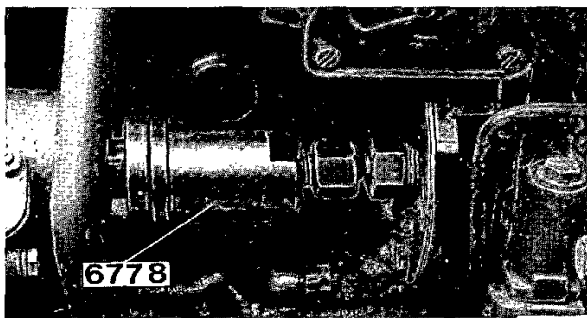

Fig. 143. Mounting the sealing ring
7. Press in the sealing with tool 6778 until the sealing is level with the housing (fig. 143).